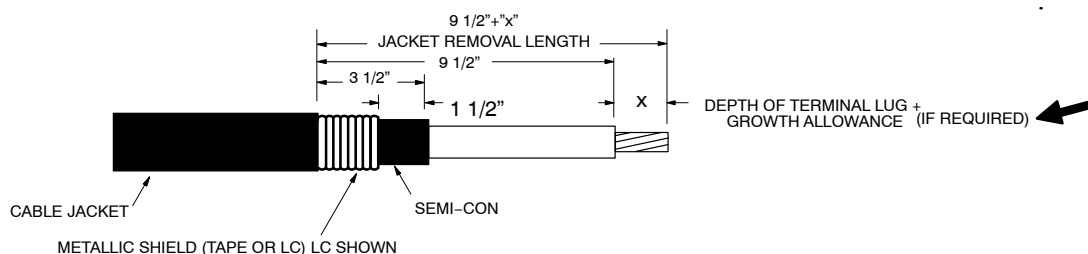

FIGURE 1A
1. Train cable into position and cut to required length. Strip the cable to the dimensions shown in Figure 1A. Check the lug being used to determine insert depth "X". Note A: Special shears (Stk. #85–32–240) should be used to cut the LC shield. Note B: To prevent a taped shield from unrolling, hold down the edge with a single wrap of semi-conducting tape (Stk. #25–53–076). Note C: Provide an additional 1/2" of exposed conductor on 500 kcmil aluminum cables and provide an additional 3/4" of exposed conductor on 750 kcmil aluminum cables to accommodate growth during crimping of aluminum lugs. If a shearhead bolt lug is used, additional exposed conductor is not required.